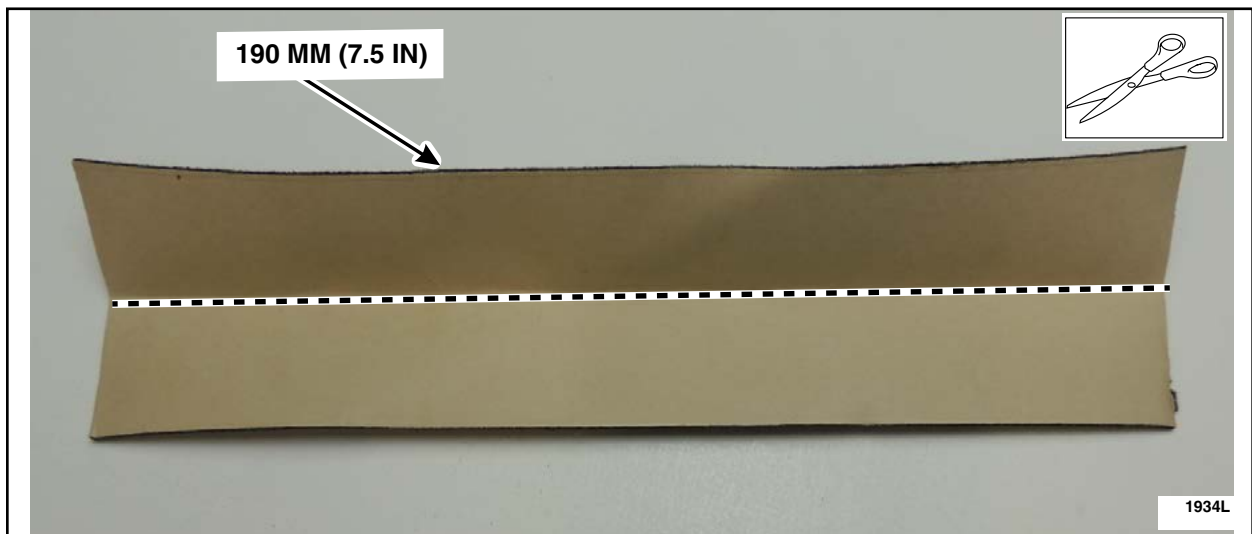

FIGURE 3
5. Take the 190 mm (7.5 in) piece of flocked tape fold and cut it in half length wise into two equal strips. See Figure 3.